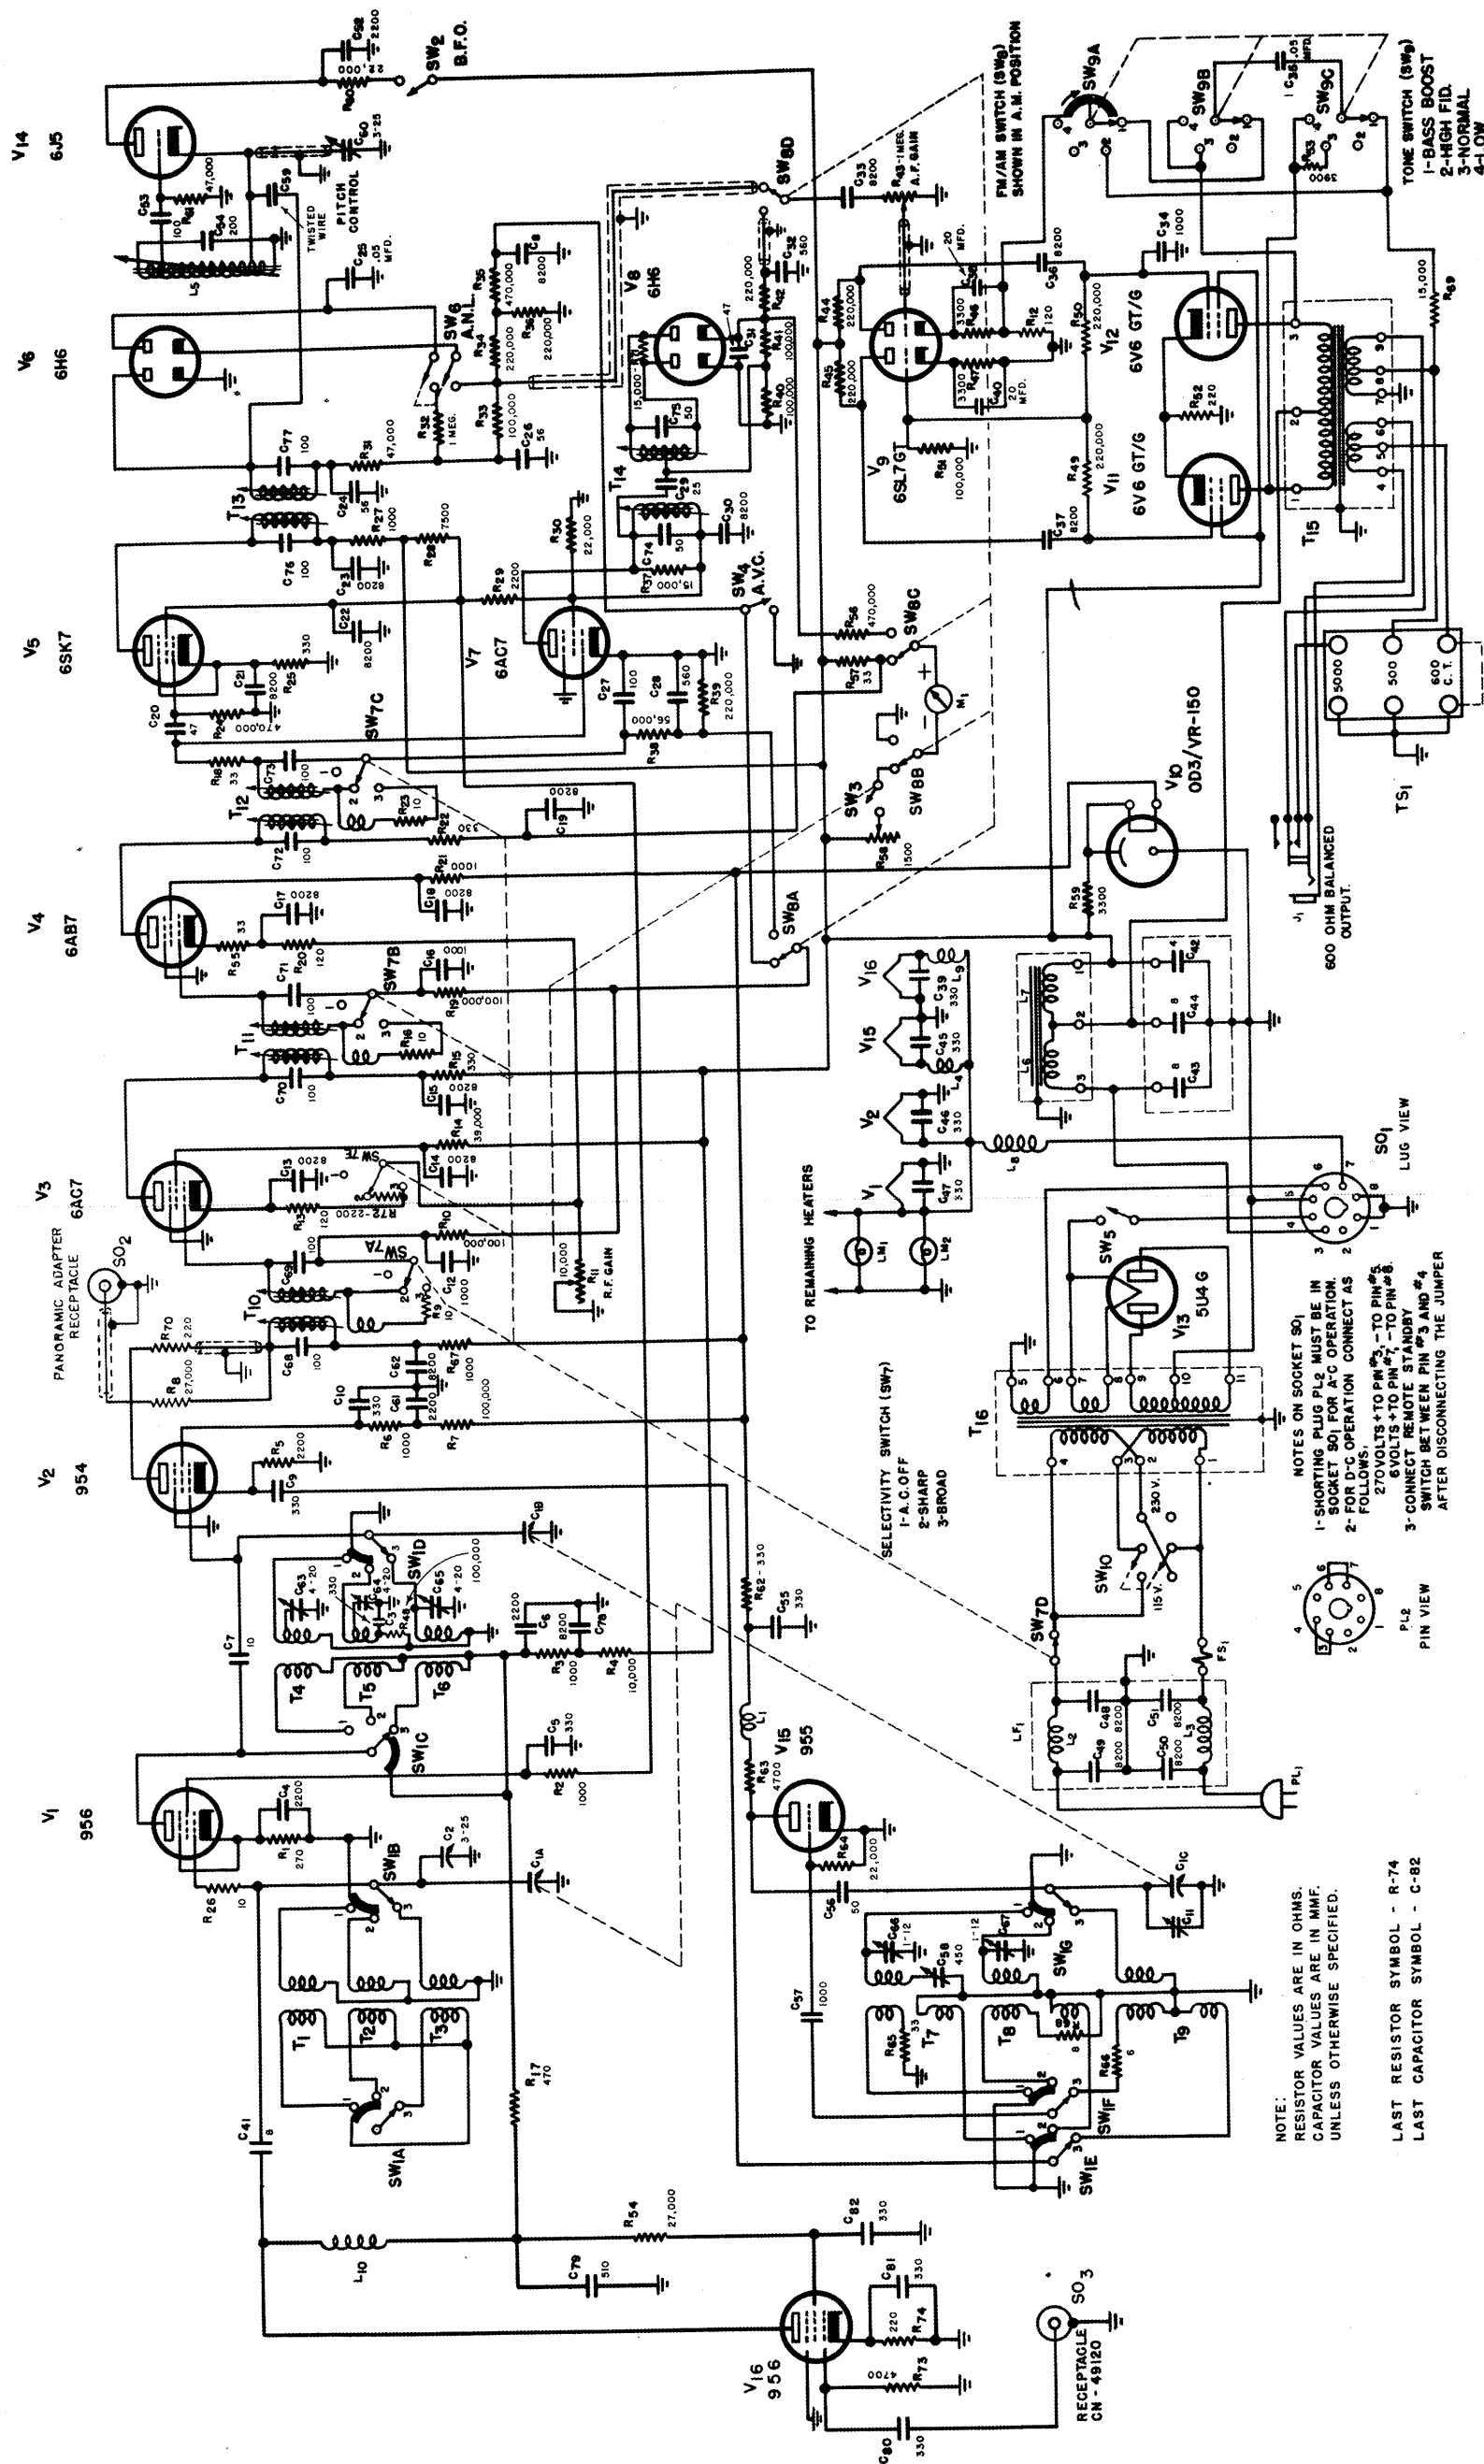

Figure 3. Radio Receiver CHL-46298, Schematic Diagram
**A-2. RECEIVER UNIT.**- Radio Receiver CHL-46298 is a ultra-high frequency super-hetrodyne radio receiver capable of receiving both amplitude modulated (A-M) and frequency modulated (F-M) phone signals and continuous wave (C-W) telegraph signals. Automatic volume control (A-V-C) and automatic noise limiter (A-N-L) circuits are incorporated. See figure 3 for the schematic circuit diagram.
**A-3, CIRCUIT DESCRIPTION.**--Refer to the schematic diagram, figure 3. Since the circuit functions of bands 1, 2 and 3 are essentially identical this discussion will describe the circuit with the BAND SWITCH (SW1A to SW1G) set at band 3, as shown in the schematic diagram. The BAND SWITCH (SW1) selects the proper radio frequency, converter, and high frequency oscillator transformers to tune a given frequency range.
a. **A-C Operation.** - If the receiver is to be operated from an a-c line, check the setting of the 115/230-volt change-over switch (SW10), located on the chassis deck to the left of the power transformer, and see that it is set for the proper line voltage. Also see that the plug (PL2) on the rear apron of the receiver is in place. This is necessary to provide continuity in the power circuits. Refer to figure 3.